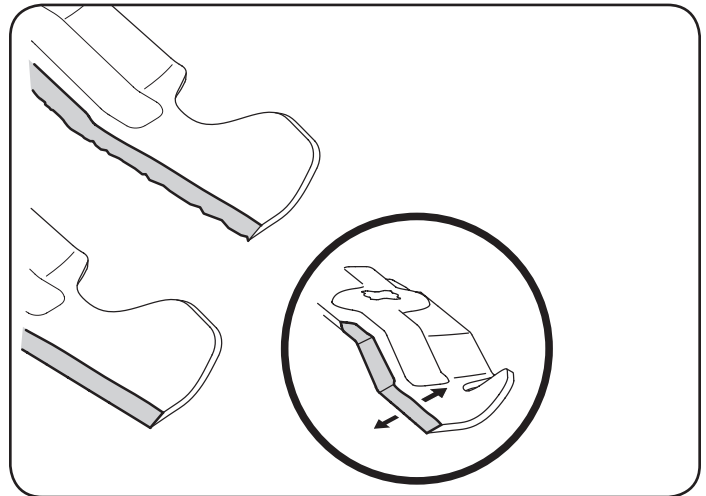

Figure 28
4. To properly sharpen the cutting blades, remove equal amounts of metal from both ends of the blades along the cutting edges, parallel to the trailing edge, at a 25° to 30° angle. Always grind each cutting blade edge equally to maintain proper blade balance. See Figure 28.